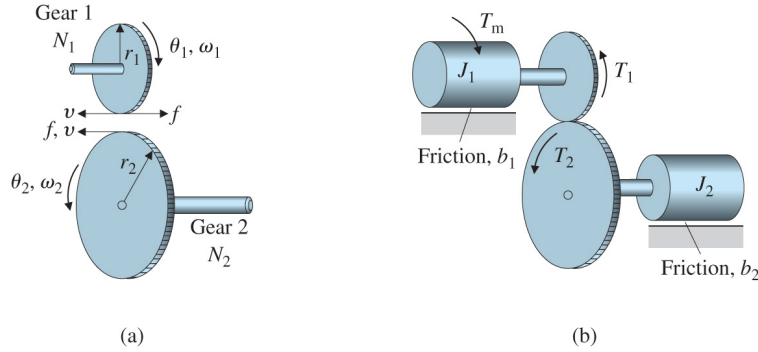

Fig. 2.36 (a) geometry definitions and forces on teeth (b) definitions for the dynamic analysis.
- (a) **Solution:** First, let's consider the problem for the case along the lines of the development in Section 2.3.3. That is, a system where the torque is applied by a motor on a gear that is simply accelerating an attached gear, like the picture in Fig. 2.36(b). This basically is assuming that the robot has no mass; but we'll come back to that. In order to multiply the torque by a factor of 2, the motor must have a gear that is half the size of the gear attached to the wheel, i.e., $n = 2$ in Eq. (2.78). For simplicity, let's also assume there is no damping on the motor shaft or the wheel shaft, so b_1 and b_2 are both = 0. If the wheel was not attached to the robot, Eq. (2.78) yields
24. Using Fig. 2.36, derive the transfer function between the applied torque, T_m , and the output, θ_2 , for the case when there is a spring attached to the output load. That is, there is a torque applied to the output load, T_s , where $T_s = -K_s \theta_2$